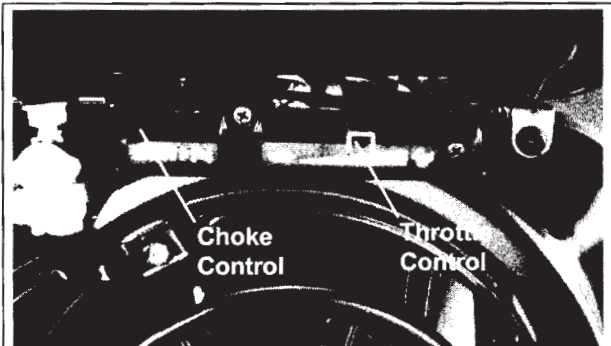

Figure 5. Control Panel.
2. **For a Cold Engine** – Place the throttle control midway between the "slow" and "fast" positions. See Figure 5. Place the choke control into the "on" position.